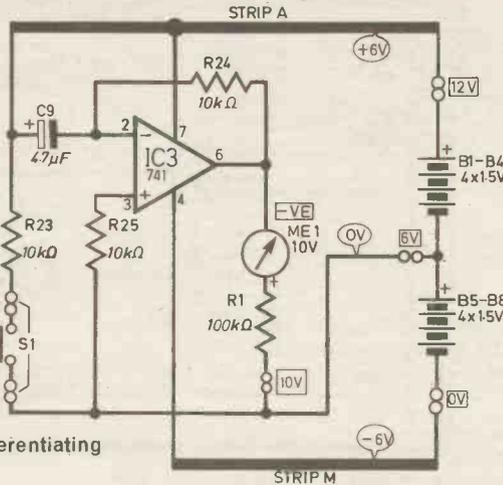

Fig. 12.6. Op-amp differentiating circuit.
The mathematical operation of differentiation is a way of calculating a *rate of change*. In Part 9 (EE June 1982) it was explained that the current flowing into or out of a capacitor depends on the *rate of change of voltage*. In this circuit (Fig. 12.6) we change the voltage on one side of a capacitor. The current flowing out of the other side goes to an op-amp.
- 12.5. If in Fig. 12.6, C9 was connected to +3V instead of +6V, and S1 was NOT pressed, what would be the reading on the meter?